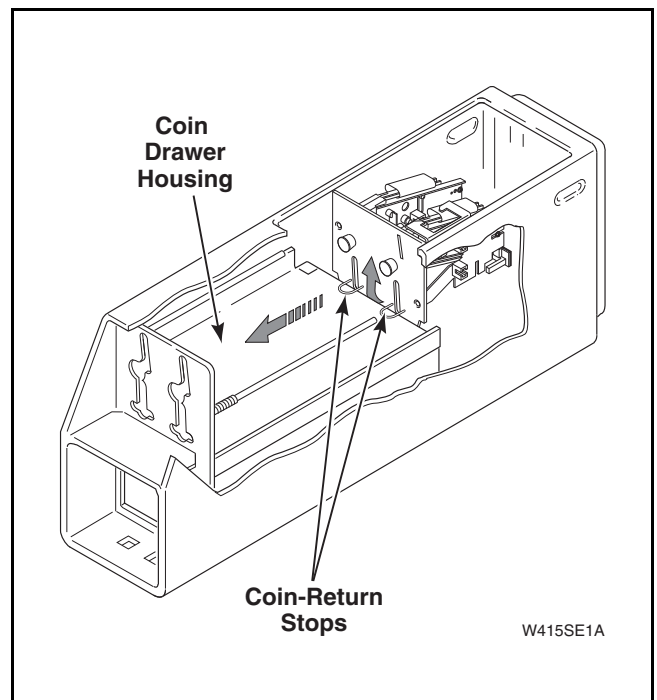

Figure 57
- (3) Rest the two coin-return stops on top of the coin drawer housing, as shown in Refer to *Figure 57*.